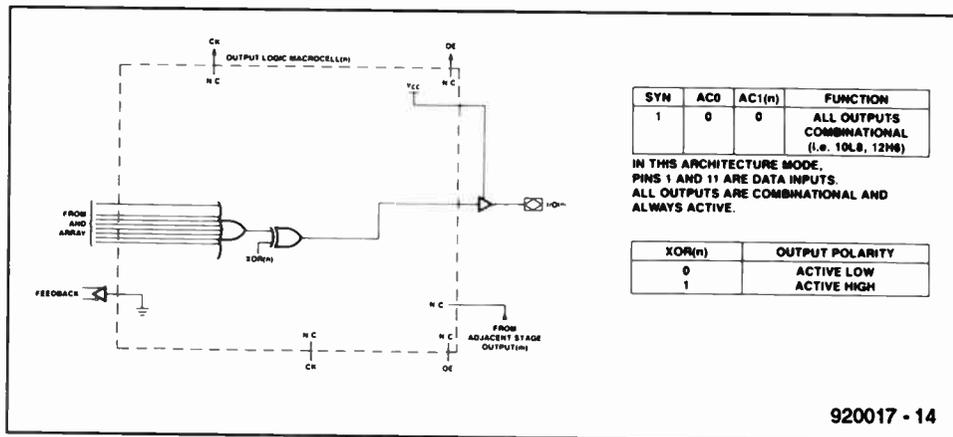

Fig. 4. Dedicated combinational output.
*Normal output*—SYN=1; AC0=0; AC1(n)=0 (Fig. 4).